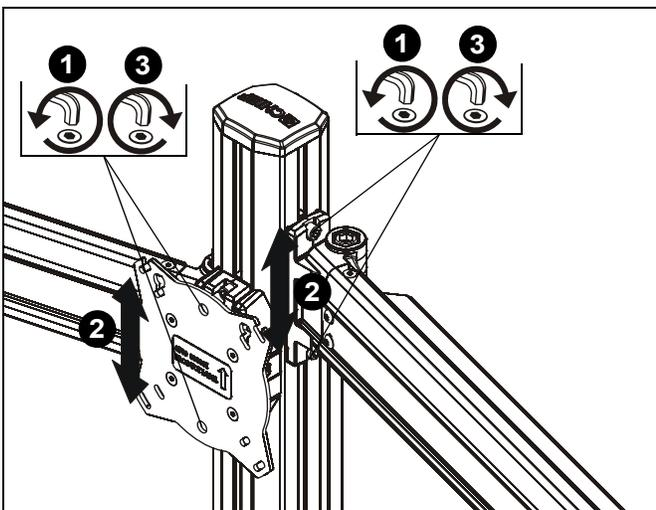

Figure 22
**NOTE:** Height adjustment for center displays should be set prior to installing display. Due to the location of the height adjustment screws for the center displays, the center displays will need to be removed in order to adjust the height. (See Figure 22)
- Loosen height adjustment screws for specific display that will be adjusted. (See Figure 22)
- Adjust arm or display to desired height. (See Figure 22)
- Tighten height adjustment screws to lock display's position. (See Figure 22)